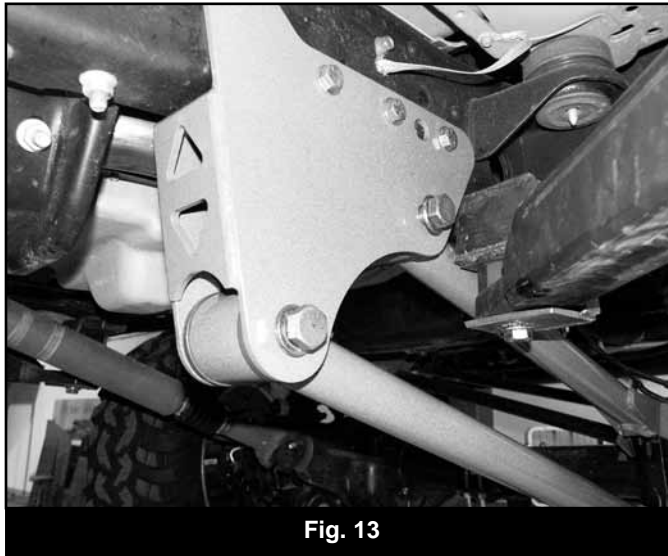

Fig. 13
40. Install the assembled upper control arm in the new frame bracket and fasten with a  $\frac{3}{4}$ " x 5-1/2" bolt, nut and  $\frac{3}{4}$ " SAE flat washers from bolt pack #432. The two tabs on the control arm go up. Leave hardware loose. (Fig. 13)